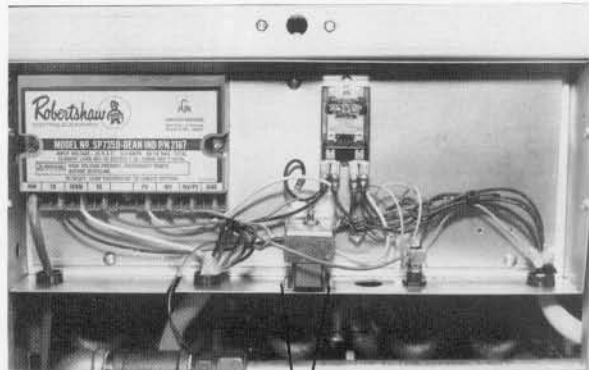

Figure 4
4. Remove 2 screws securing hi-limit thermostat body to control box (Fig. 4).